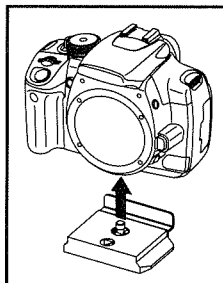

Fig.6
2. Attach the quick shoe to the tripod socket of the camera and secure with the screw (Fig. 6).